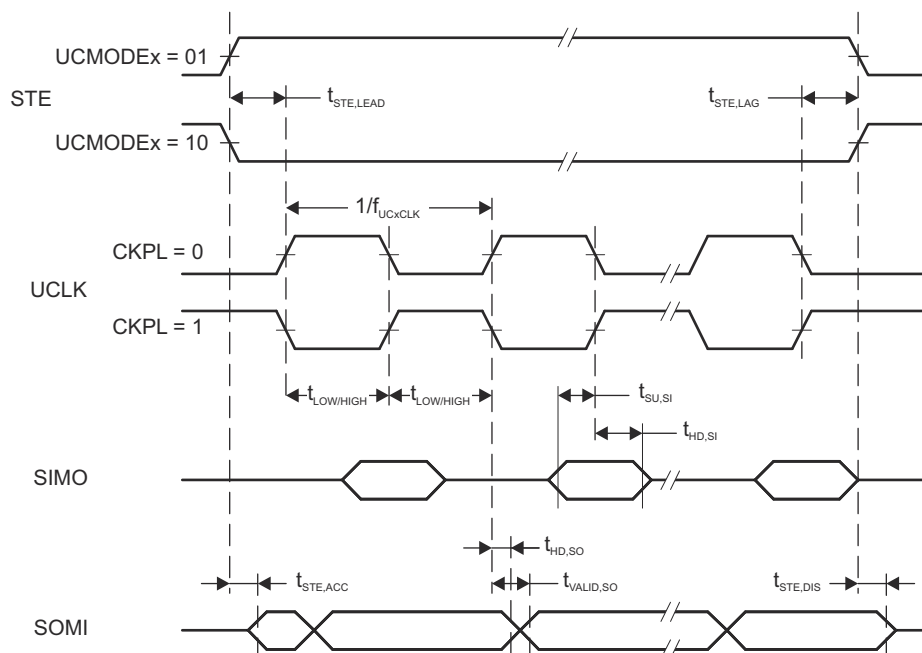
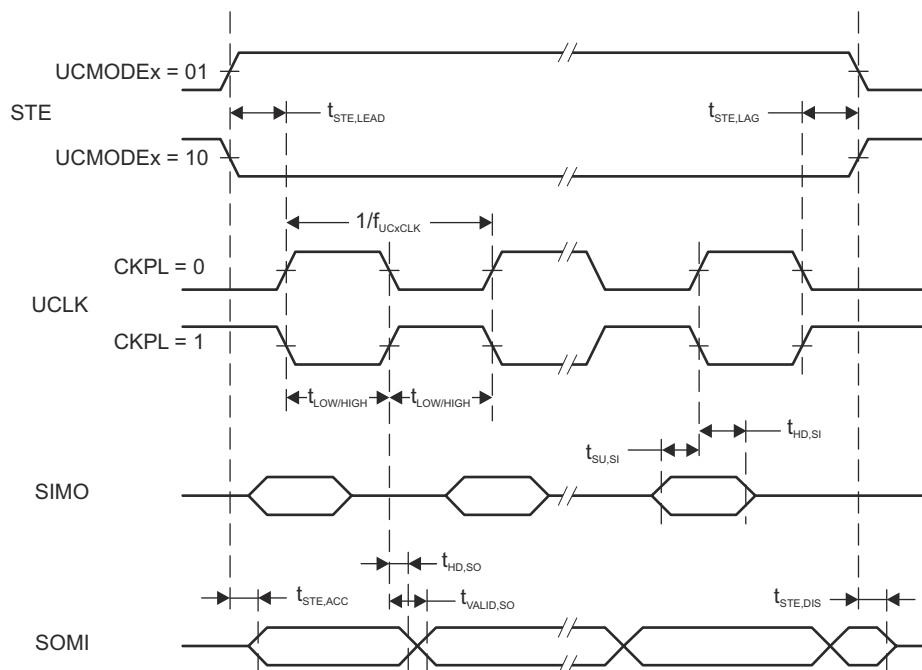

Figure 8-16. SPI Slave Mode, CKPH = 0
Figure 8-17. SPI Slave Mode, CKPH = 1
- (2) Specifies the time to drive the next valid data to the SOMI output after the output changing UCLK clock edge. See the timing diagrams in Figure 8-16 and Figure 8-17.
- (3) Specifies how long data on the SOMI output is valid after the output changing UCLK clock edge. See the timing diagrams in Figure 8-16 and Figure 8-17.